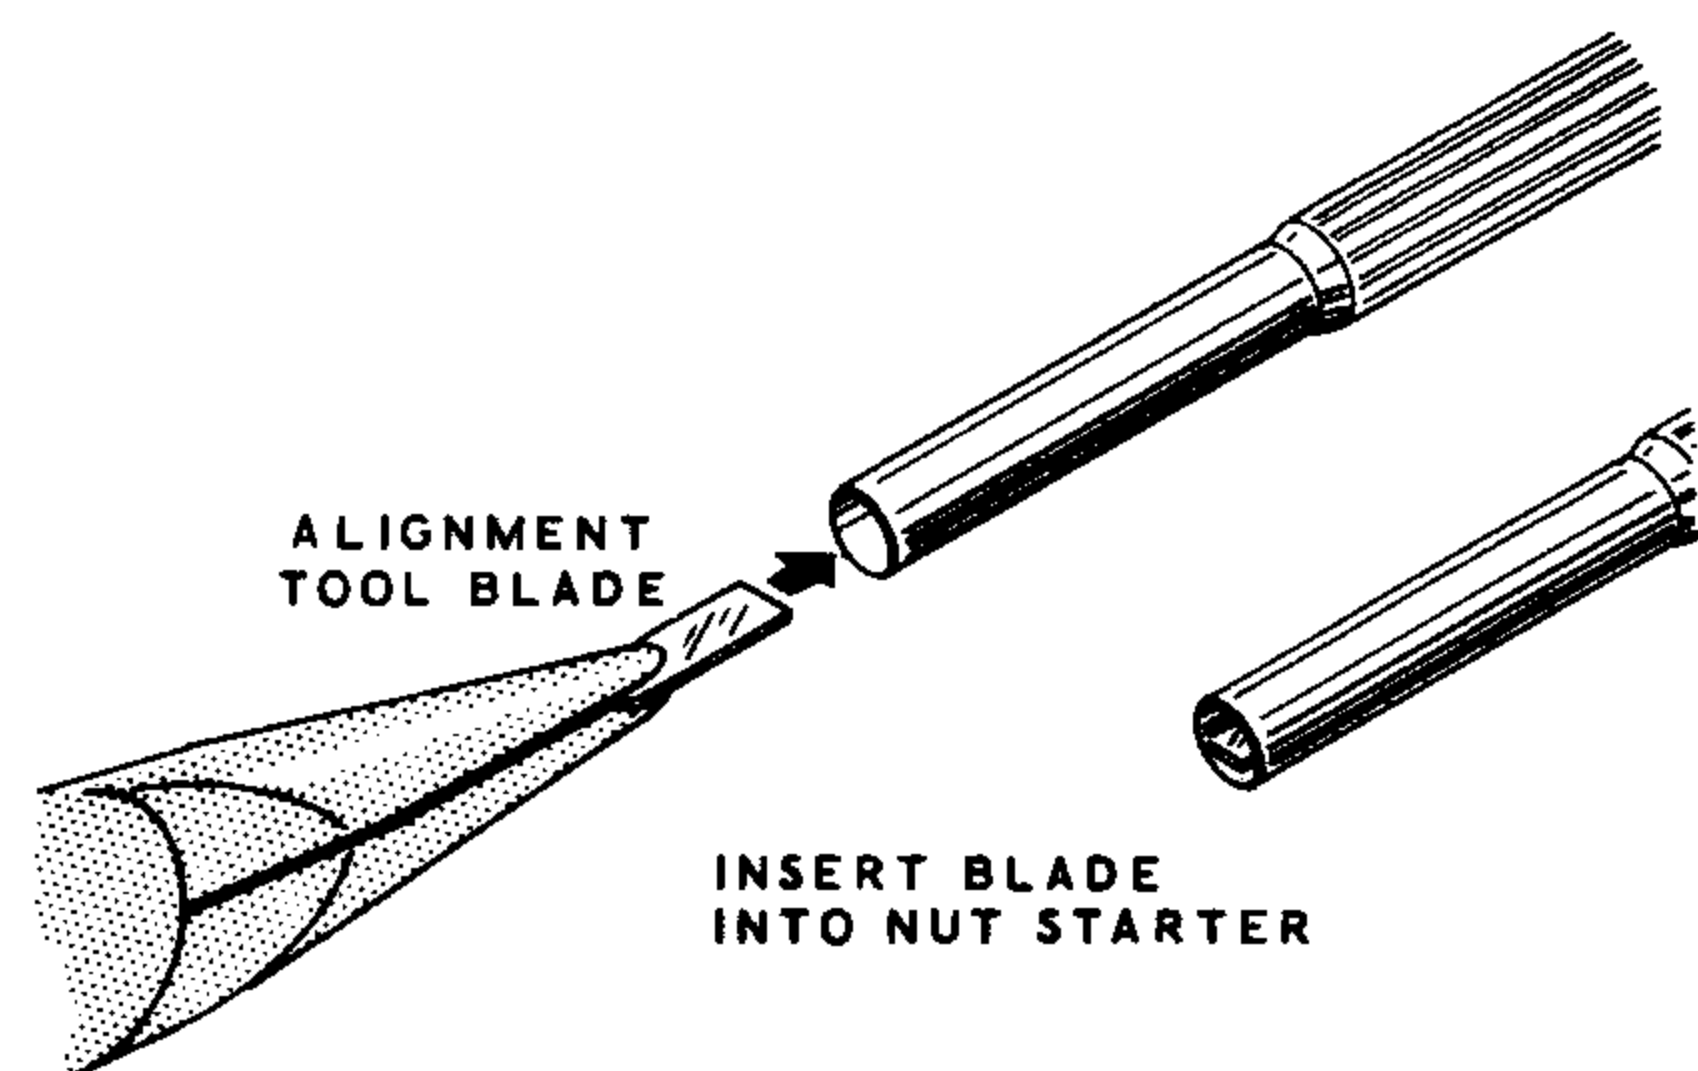

Figure 1
- ( ) Locate the alignment tool blade supplied with this kit. Refer to Figure 1 and use a pair of long-nose pliers. Insert the blade into the smaller hole of the nut starter until the blade end is flush with the end of the nut starter. This now can be used as a trimmer alignment tool.